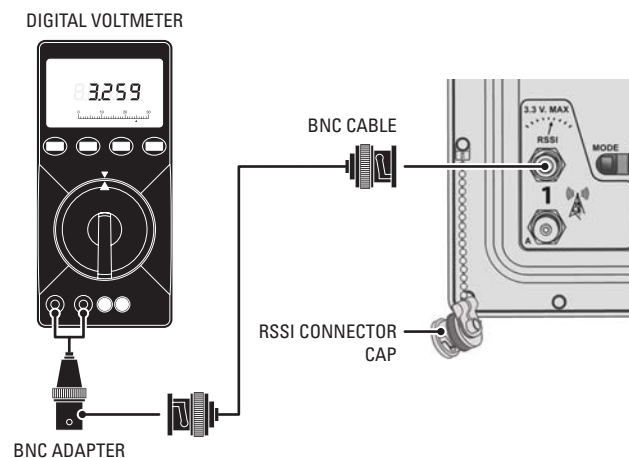

Figure 20. Connecting a DVM to the EW5002
5. Uncap the RSSI connector on the EW5002 (refer to Figure 20).